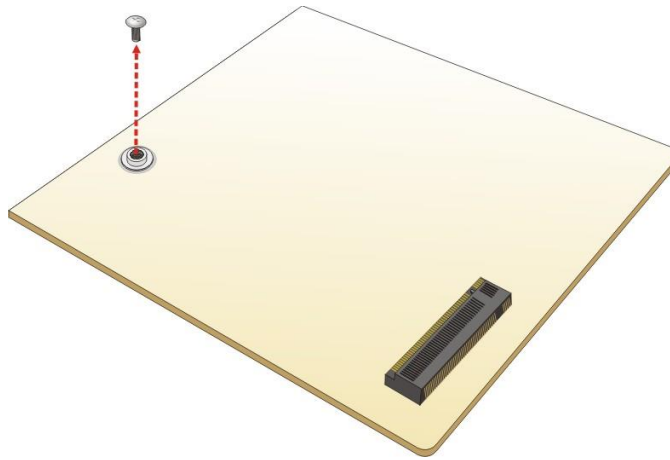

Figure 5-9: Removing the M.2 Module Retention Screw
Step 2: Remove the on-board retention screw as shown below (**See** Figure 5-9).